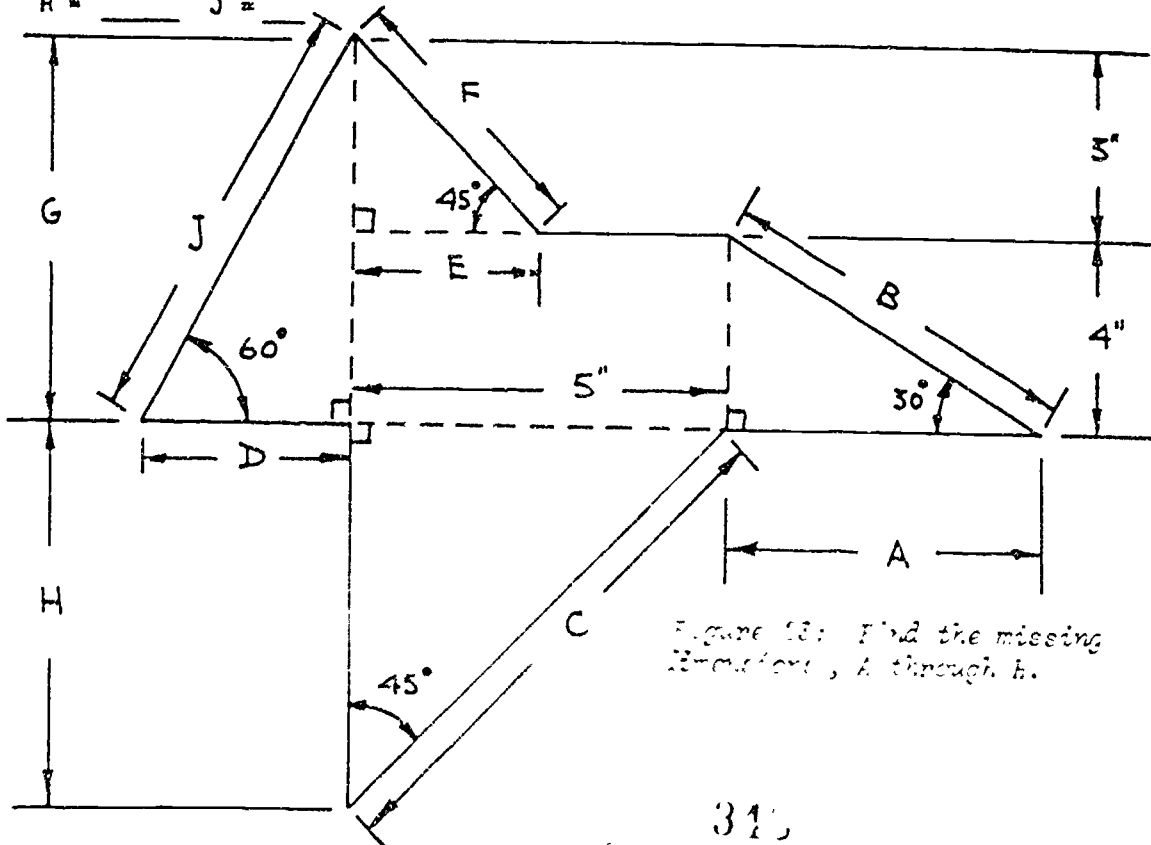

Figure 23: Find the missing dimensions, A through h.
8. On your job you are given the following sketch of a gage pattern to layout and cut. You must find the missing dimensions A, B, C, D, E, F, C, H and J. Look at Figure 23.